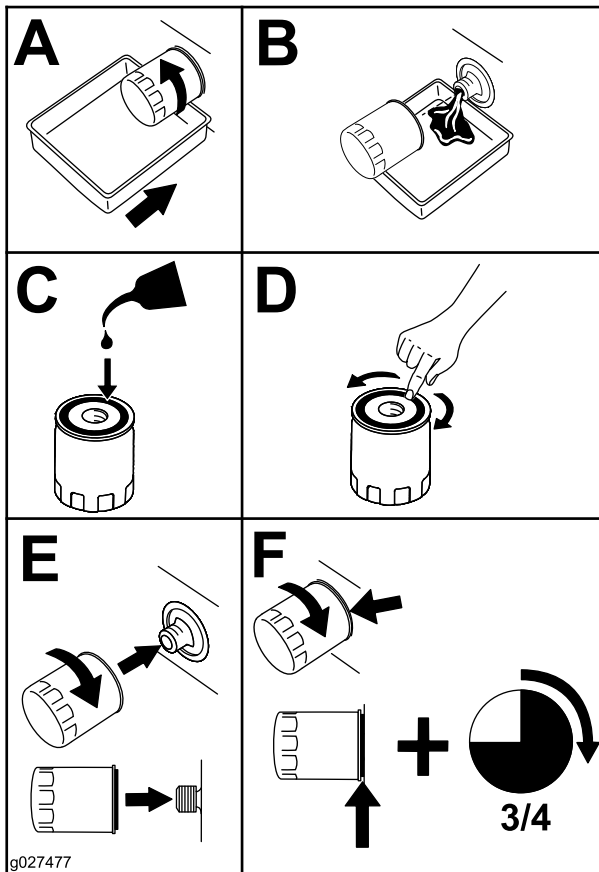

Figure 51
3. Replace the filter as shown in Figure 51.